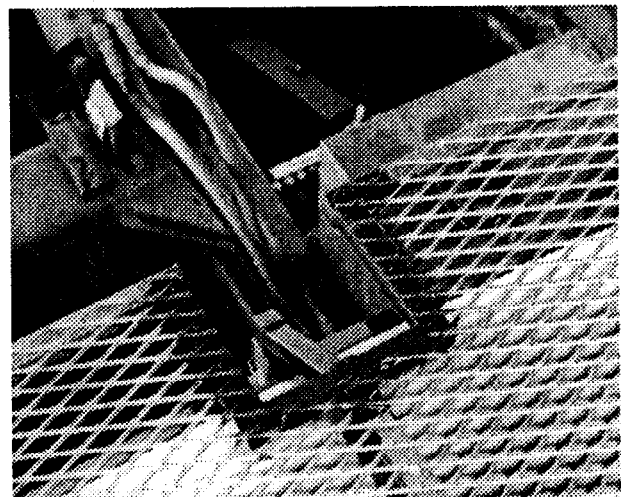

Figure 1 - Photograph of Cut-Out in Roof Rack
- c. Modify roof rack as detailed in Figures 1 and 2, using Items 1 and 2 from Table 1, by cutting out a section and welding in the framework to support the mesh.